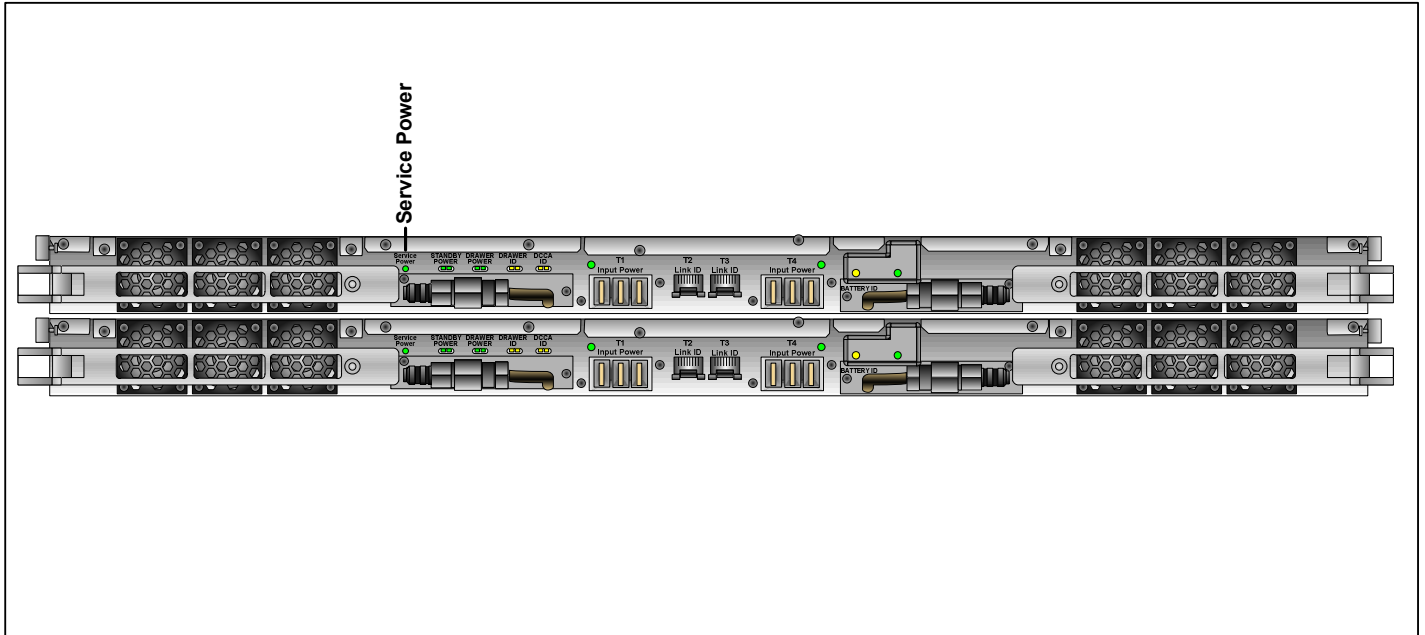

Figure 30 Service Power LED
STEP 40 Wait for the CEC FSP to be active. The 'Service Power' LED will be lit on the top DCCA. Refer to Figure 30.